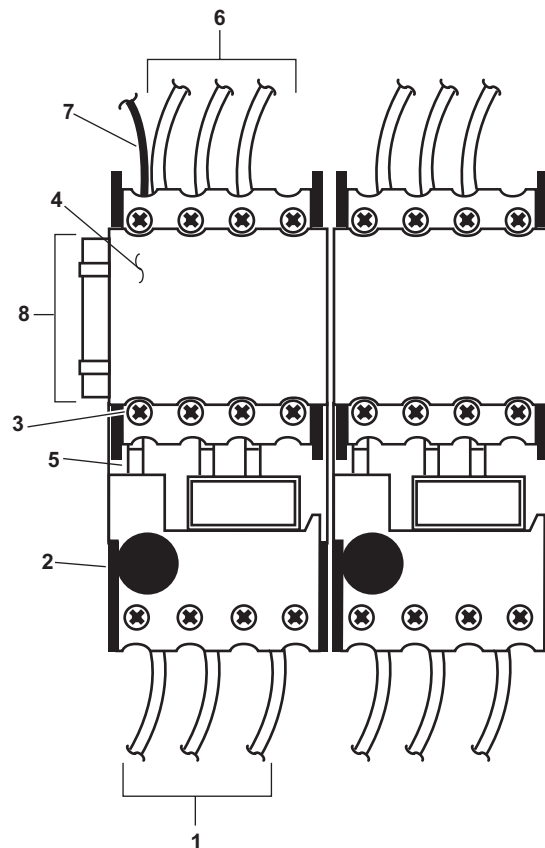

Figure 6. Thermal Relay Replacement
2. Label and disconnect the wiring (figure 6, item 1) on the load side of the thermal relay (figure 6, item 2).
3. Loosen the clamping screws (figure 6, item 3) on the load side of the magnetic contactor (figure 6, item 4) that secure the line leads (figure 6, item 5).
4. Allow the front side of the thermal relay (figure 6, item 2) to drop down and lift the rear of the thermal relay to remove it from the magnetic contactor (figure 6, item 4).
1. Position the rear of the thermal relay (figure 6, item 2) into the retaining slot in the magnetic contactor (figure 6, item 4).
2. Lift the front of the thermal relay (figure 6, item 2) and guide its line side leads (figure 6, item 5) into the clamping screws (figure 6, item 3) on the magnetic contactor (figure 6, item 4).
3. Secure the line side leads (figure 6, item 5) by tightening the clamping screws (figure 6, item 3).
4. Connect the load side wiring (figure 6, item 1) using the labels from step 2 of Removal as a guide. Remove the labels.
2. Label and disconnect the wiring (figure 6, item 6) from the line side of the magnetic contactor (figure 6, item 4) and from the ground (figure 6, item 7).
3. Slide the magnetic contactor (figure 6, item 4) sideways to remove it from the mounting rail (figure 6, item 8).
1. Slide the magnetic contactor (figure 6, item 4) onto the mounting rail (figure 6, item 8).
2. Connect the wiring (figure 6, items 6 and 7) using the labels from step 2 of Removal as a guide. Remove the labels.